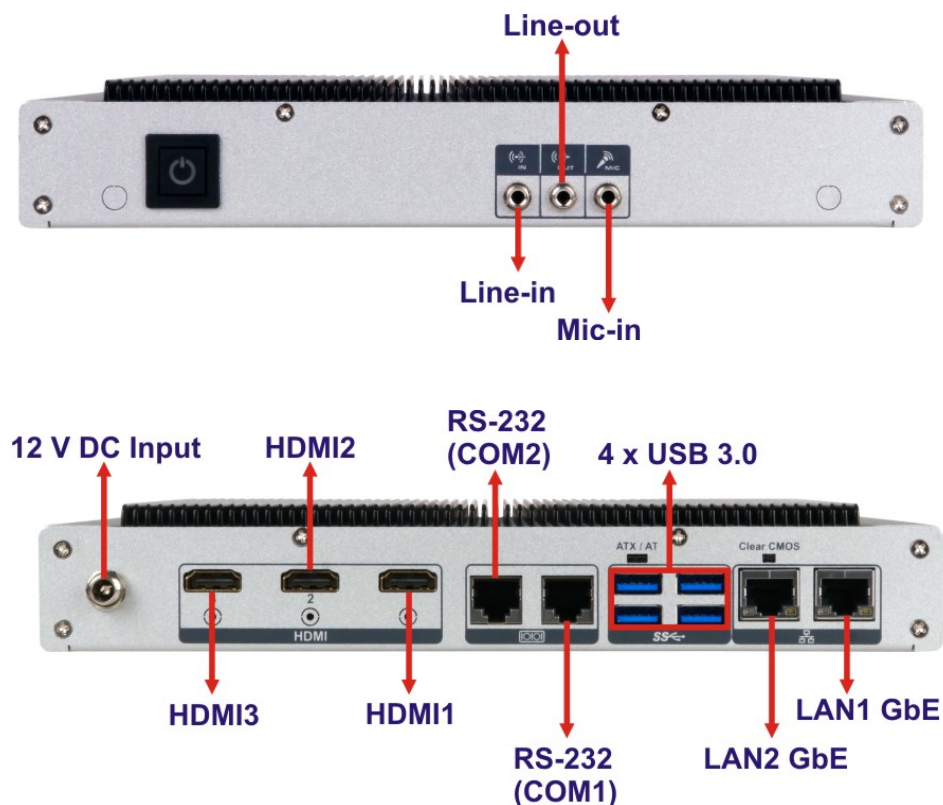

Figure 3-19: External Peripheral Interface Connectors
The locations of the external peripheral interface connectors are shown in **Figure 3-19**.
CN Location: See **Figure 3-19**
- CN Location:** See **Figure 3-19**